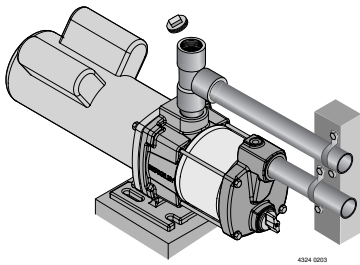

Figure 13 – Remove Priming Plug
1. Remove priming plug (Figure 13).